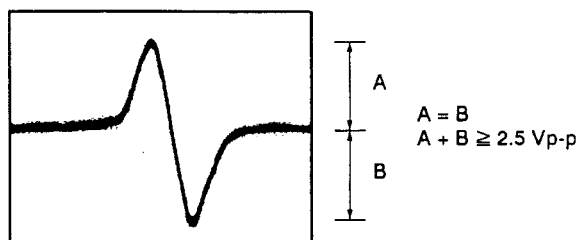

Figure 8
3. While watching the oscilloscope screen, press the PROGRAM key and observe the wave form in Figure 8 for a moment. Verify that the amplitude is at least 2.5 Vp-p and that the positive and negative amplitude are about equal. Since the wave form is only output for a moment when the PROGRAM key is pressed, press this key over and over until you have checked the wave form.